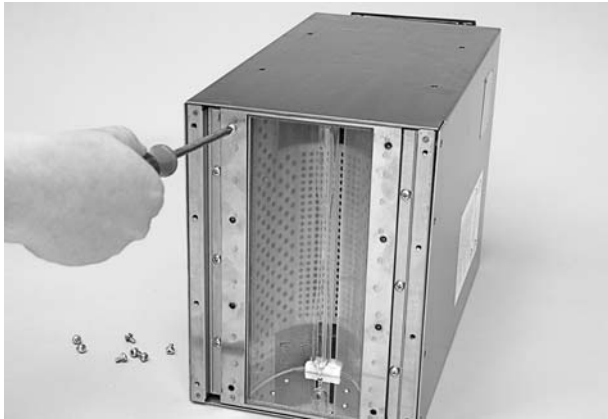

Figure 4-1 RF Screen Removal
2. See Figure 4-1. Turn or place the lamphead assembly so that the entire bulb area is exposed and accessible.